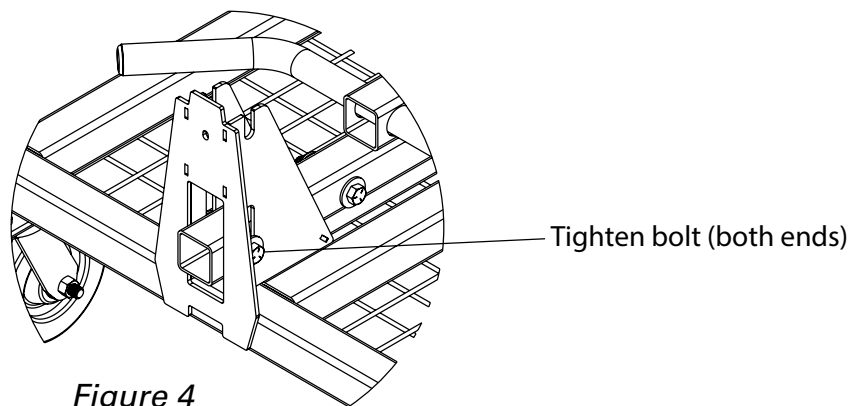

Figure 4
3. Tighten the 2 lower bolts that are captured in the upright support to prevent the folded arms from bouncing or otherwise moving during transport. (See Dis-Assembly Figure 4).